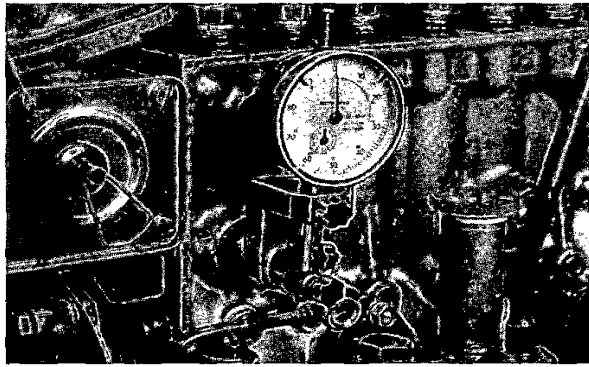
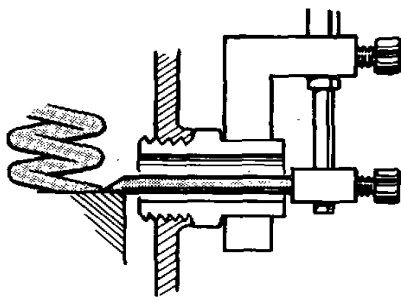

Fig. 133. Location of fixture and dial indicator
Fig. 134. Location of measuring point for tool 6770
9. Fit the fixture together with the dial indicator and the measuring point on the screw socket (fig. 133). Turn the measuring point according to fig. 134 and lift it up so that it rests against the lifter.